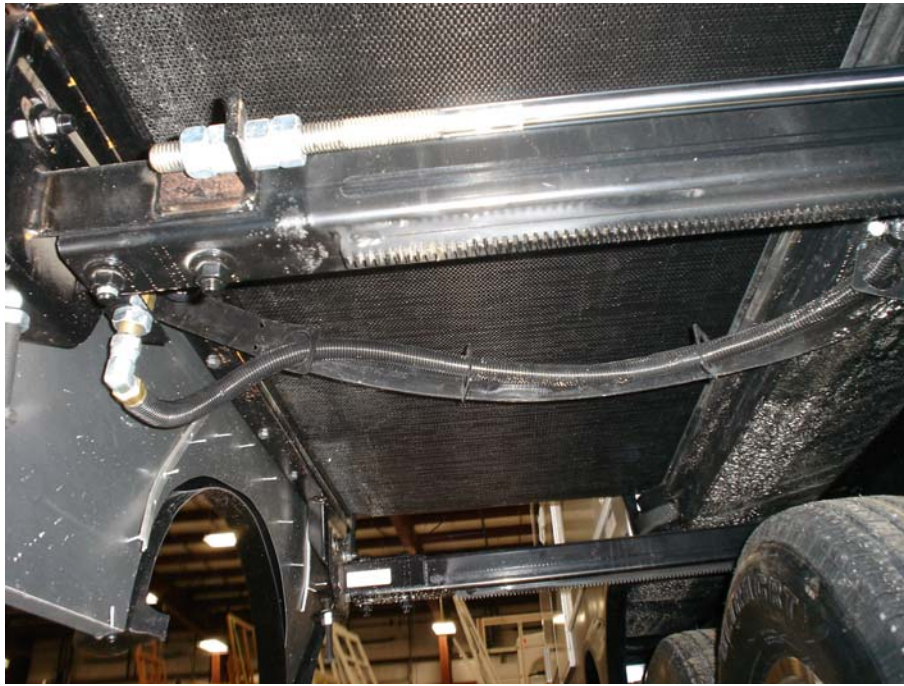

Fig. 3
- Step 4.** Reposition the flex guard to remove any play between flex guard and the LP hose. See figure 3. Cut off excess flex guard. Refasten the flex guard to the LP mounting bracket on the kitchen slide out.